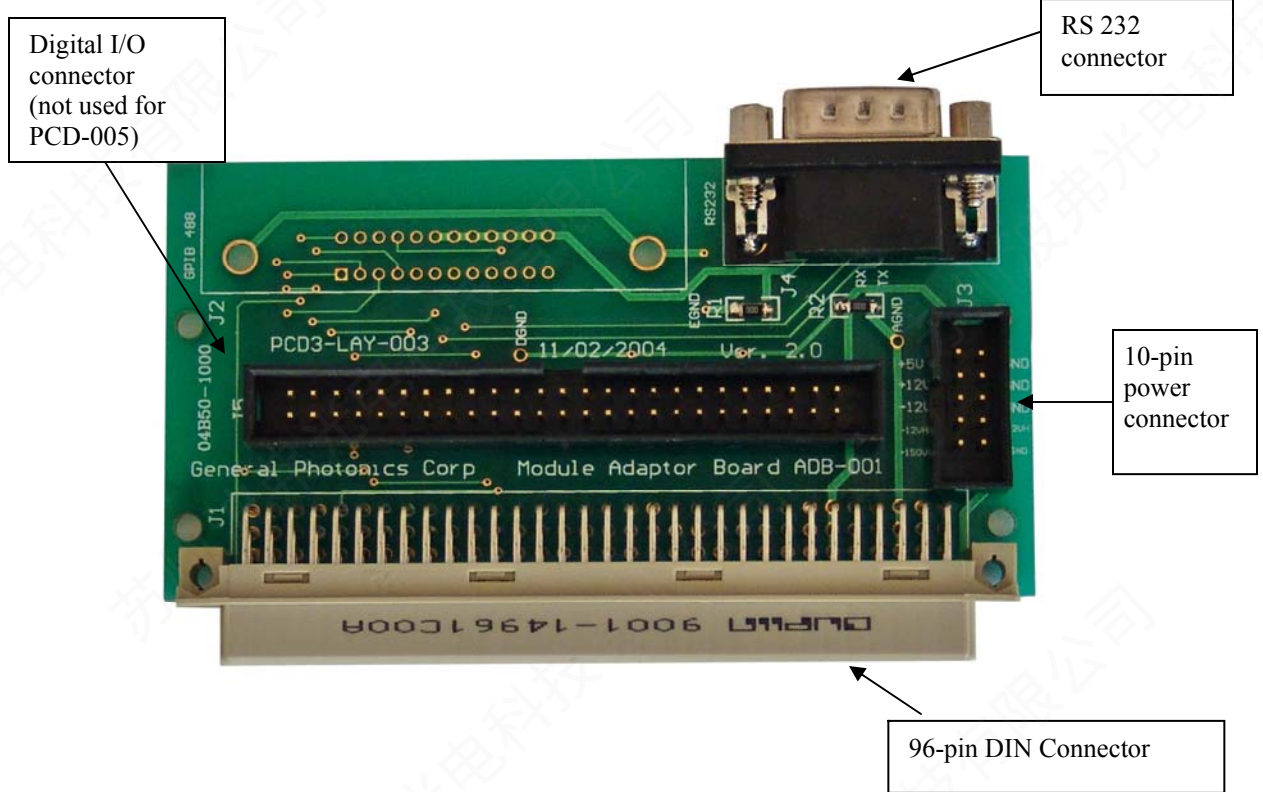

Figure 5 ADB-001 System Bus Adapter Board and connector layout.
A system bus adapter board (ADB-001, shown in Figure 5) is provided with the PCD-005 module. The ADB-001 provides connections from the power supply socket and RS-232 ports to the 96-pin DIN connector on the PCD-005 board.
- b. For a PCD-005 with a shielding box, connect the system bus adapter board (ADB-001) to the PCD-005 module, set the power supplies to the correct voltages, and connect the power cable to the ADB-001 board as shown in Figure 5.
The ADB-001 adapter board has a male connector for an RS-232 cable (Figure 5). Use a straight-wired RS-232 cable to connect the board to the control computer.